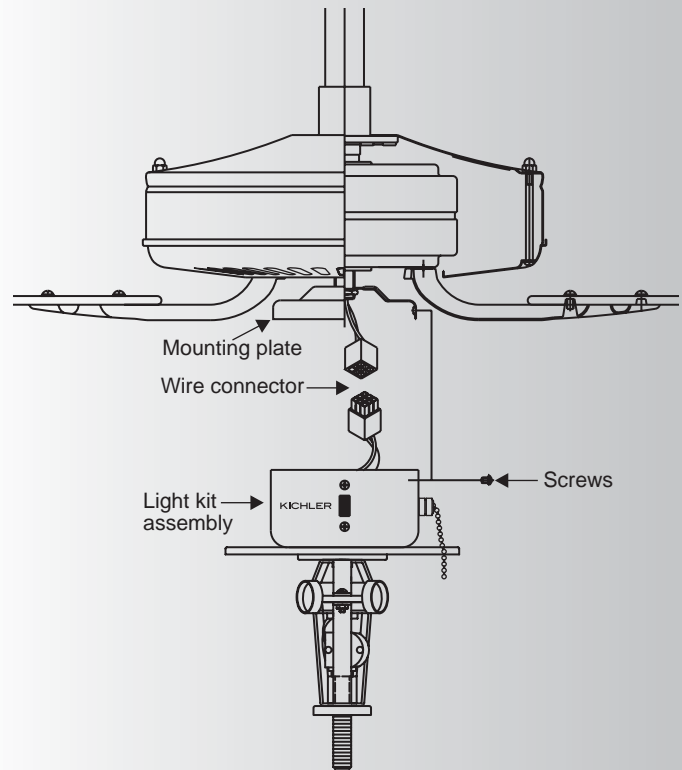

Fig. 2
4. Raise and hold the light kit assembly close to the mounting plate. snap together the wire connection plugs. (Fig. 2)
5. Carefully push all wires back into the switch housing, then install the light kit assembly onto the mounting plate with 3 screws provided. Be sure to tighten all screws. (Fig. 2)